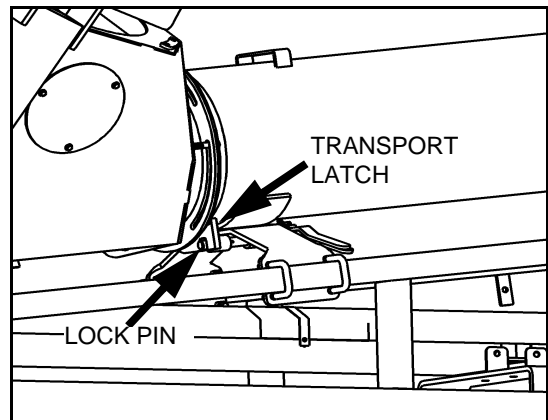

Figure 3.13
- Adjust the position of the flex tube support, so that the lock pin sticks through the transport latch approximately 1/16" (1.6 mm). Tighten u-bolts and locknuts and secure. See Figure 3.13.